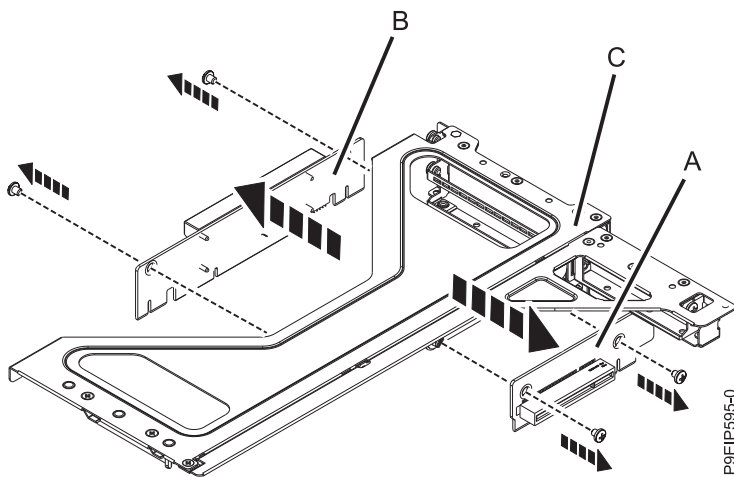

Figure 38. Removing the PCIe riser cards from the adapter cage
7. If you need to remove the riser cards (A), or (B); remove the screws that secure the PCIe riser card to the cage (C) as shown in Figure 38.